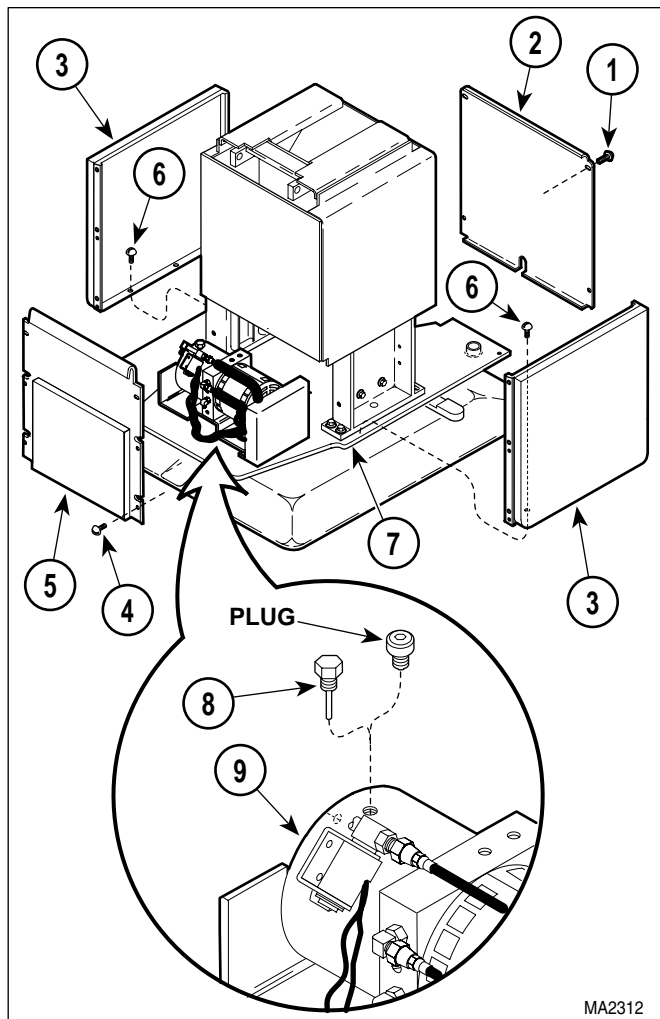
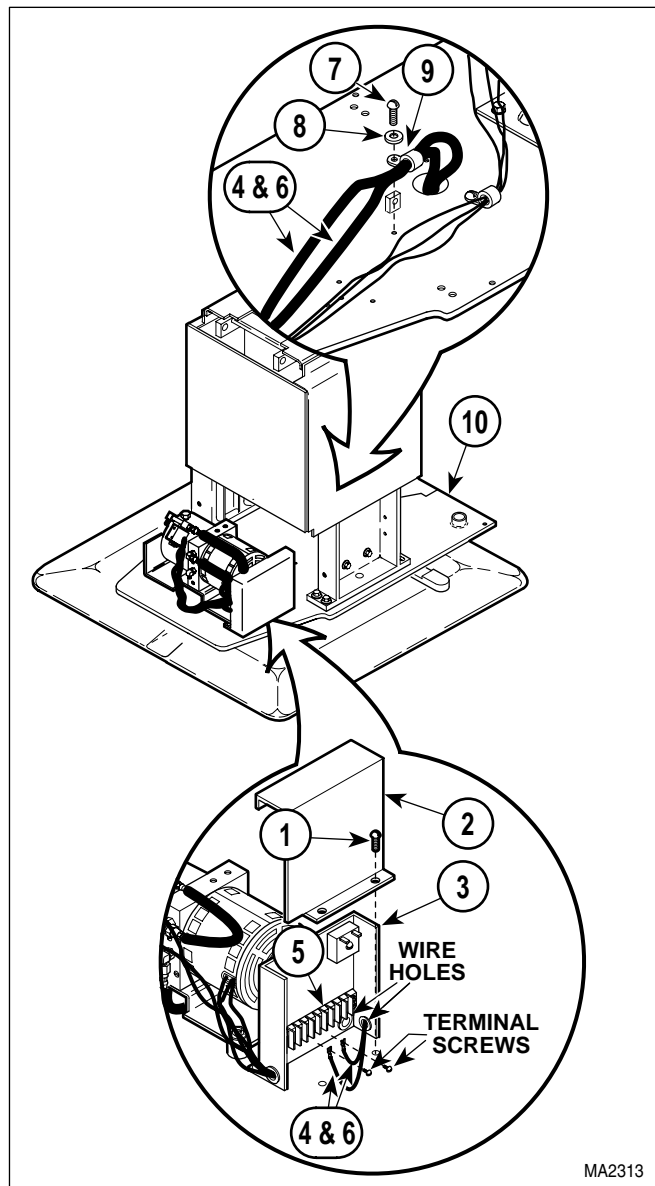

Figure 4-37. Shrouds Removal / Installation
Figure 4-38. Wires Disconnection / Connection
- (1) Raise TABLE UP function all the way up.
- (2) Unplug table power cord from outlet.
- (3) Remove motor cover assembly (Refer to para 4.2).
- (4) Remove four screws (1, Figure 4-37) and front outer shroud (2) from left and right hand outer shrouds (3).
- (5) Remove four screws (4) and back outer shroud (5) from left and right hand outer shrouds (3).
- (6) Remove six screws (6) and left and right hand outer shrouds (3) from platform base weldment (7).
- (7) Remove brake (Refer to para 4.27).
- (8) Remove filler cap (8) from motor pump (9).
- (9) Install plug (provided in bearing replacement kit) on motor pump (9).
- (10) Remove two screws (1, Figure 4-38) and control cover (2) from control panel (3).
- (11) Loosen three terminal screws; then tag and disconnect three wires (4) from terminal block (5).
- (14) With help of an assistant, raise table to its upright position.
- (15) Connect eight wires (6, Figure 4-38) to terminal block (5) and secure by tightening eight terminal screws.
- (16) Connect three wires (4) to terminal block (5) and secure by tightening three terminal screws.
- (17) Secure wires (4 and 6) to platform base weldment (10) with cable clamp (9), washer (8), and screw (7).
- (18) Install any cable ties which were removed during removal.
- (19) Install control cover (2) on control panel (3) and secure with two screws (1).
- (20) Remove plug from motor pump (9, Figure 4-37).
- (21) Install filler cap (8) in motor pump (9).
- (22) Install brake (Refer to para 4.27).
- (23) Adjust brake (Refer to para 4.26).
- (24) Install left and right hand outer shrouds (3, Figure 4-37) on platform base weldment (7) and secure with six screws (6).
- (25) Install back outer shroud (5) on left and right hand outer shrouds (3) and secure with four screws (4).
- (26) Install front outer shroud (2) on left and right hand outer shrouds (3) and secure with four screws (1).
- (27) Install motor cover assembly (Refer to para 4.2).